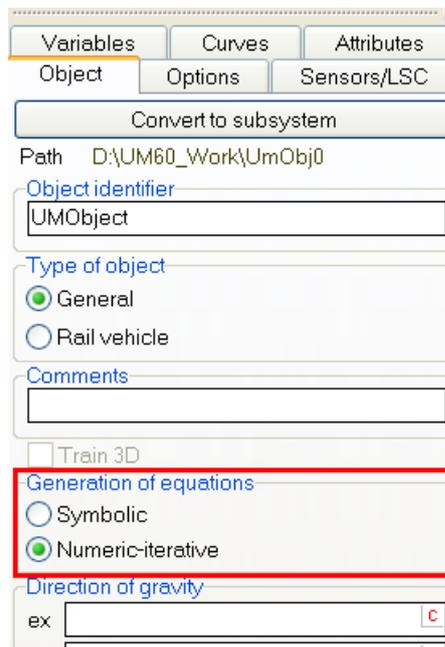

Figure 4.84. Numeric-iterative method of generation of equations; the Object tab of the inspector in UM Input program
- Numeric iterative method of generation of motion equations must be set for the vehicle model in the **UM Input** program, Figure 4.84.